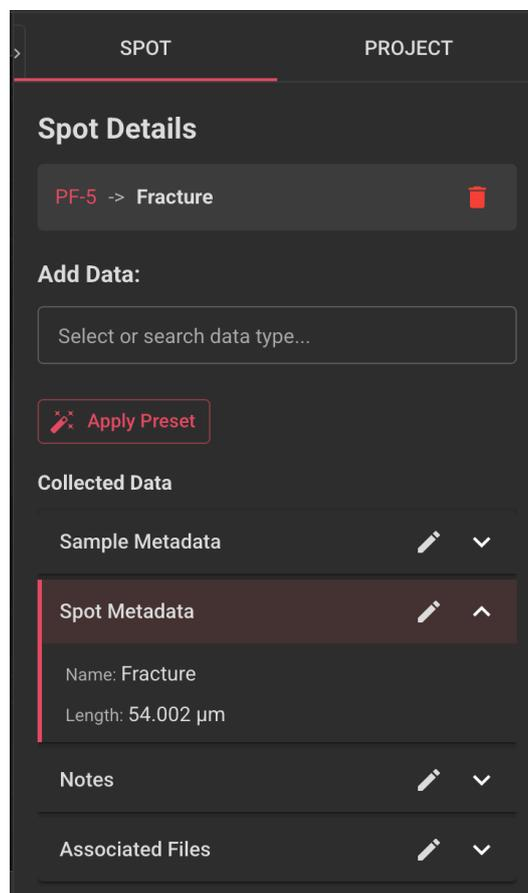

Figure 25. Spot Metadata panel showing selected spot with editable data fields.
- **To add data to a spot:** Click the spot to select it. When active, the spot will be outlined in red and its metadata panel will appear on the right (see Figure 25).